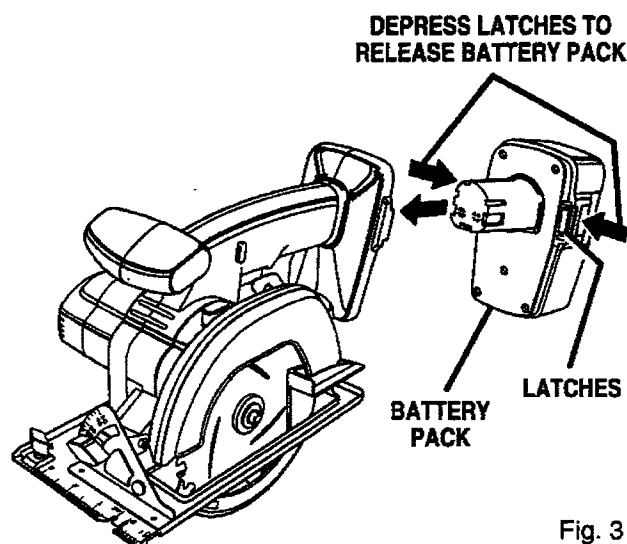

Fig. 3
- Locate latches on end of battery pack and depress to release battery pack from your saw. See Figure 3.
See Figure 3.